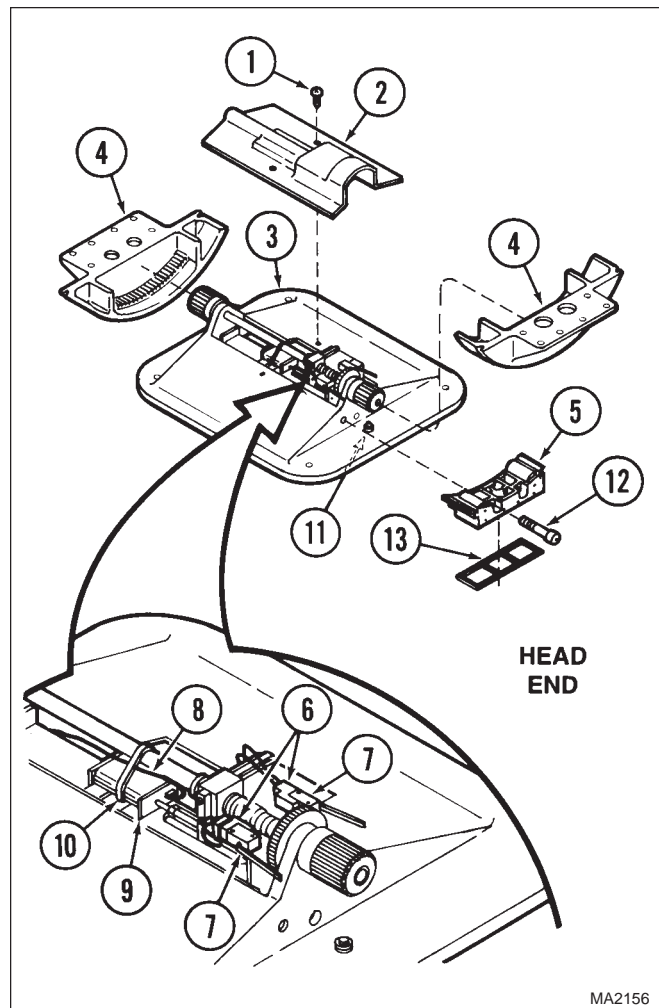
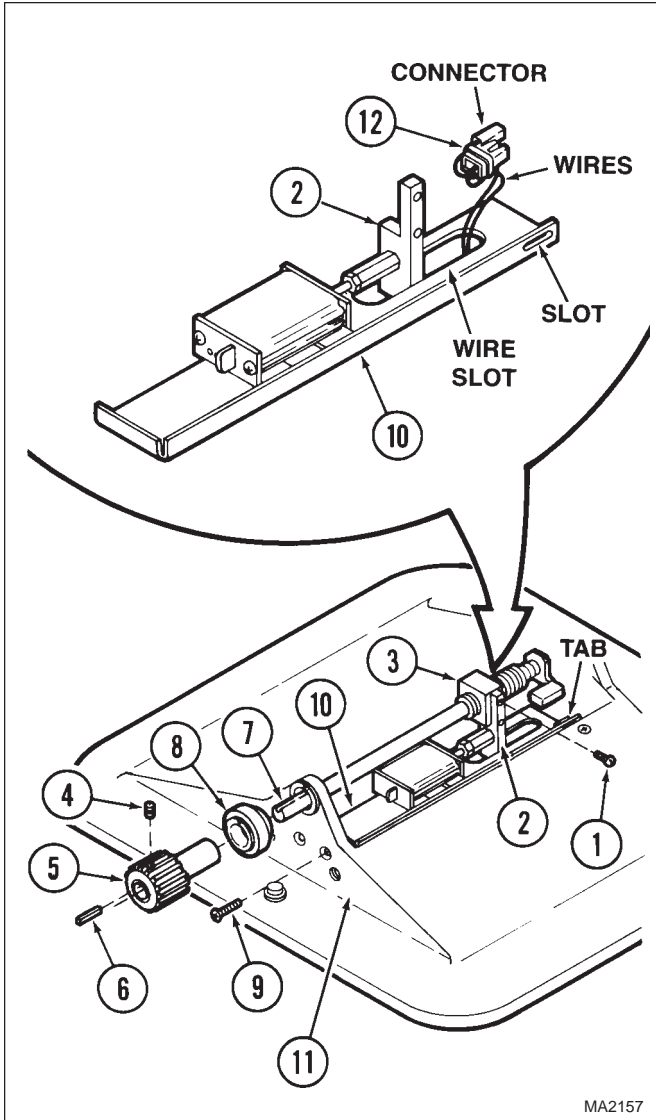

Figure 4-30. Wheel Housing Removal
Figure 4-31. Transducer Plate Removal
- (21) With the help of an assistant, remove table top (2) from lateral tilt blocks (3). Lower table top to the floor.
- (22) Remove two screws (1, Figure 4-30) and lateral tilt cover (2) from trendelenburg plate (3).
- (23) Remove one lateral tilt block (4) from each wheel housing (5).
- (24) Tag and disconnect two wire harnesses (6) from limit switches (7).
- (25) Tag and disconnect wire harness (8) from lateral tilt transducer (9).
- (26) Cut cable tie (10) which secures wire harness (8) to lateral tilt transducer (9).
- (27) Loosen setscrew (11) in each wheel housing (5).
- (28) Remove two screws (12), wheel housing (5), and wheel housing seal (13) from each end of trendelenburg plate (3).
- (29) Remove two screws (1, Figure 4-31) and allow nut guide (2) to separate from lead nut (3).
- (30) Loosen setscrew (4) in each pinion gear (5).
- (31) Remove pinion gear (5) and key (6) from each end of drive shaft (7).
- (32) If damaged, remove gear roller (8) from each pinion gear (5).
- (33) Remove two screws (9) and partially separate